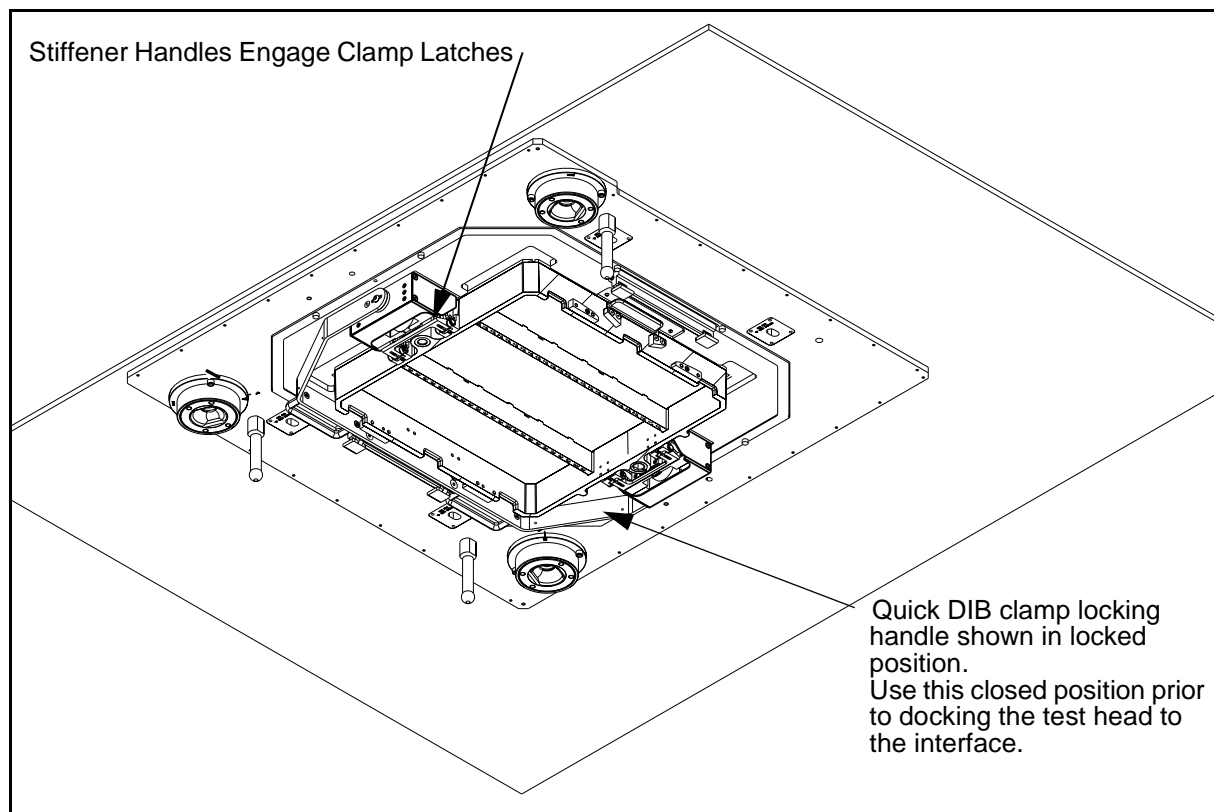

Figure 21 Stiffener Handles Engaging the Clamp Latches
- 4) Bring the Quick DIB Clamp Handle from the open position to the closed position. This moves the DIB down and compresses the signal pins. See Figure 21. This should be a smooth operation with some noise coming from the compressing signal pins.